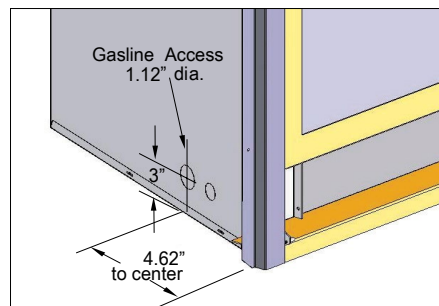

Figure 9. Gas line access.
NOTE: When constructing the framed opening, please ensure there is access to install the gas line when the unit is installed. See **Figure 9**.
- See **Figure 9** for location of gas line access.